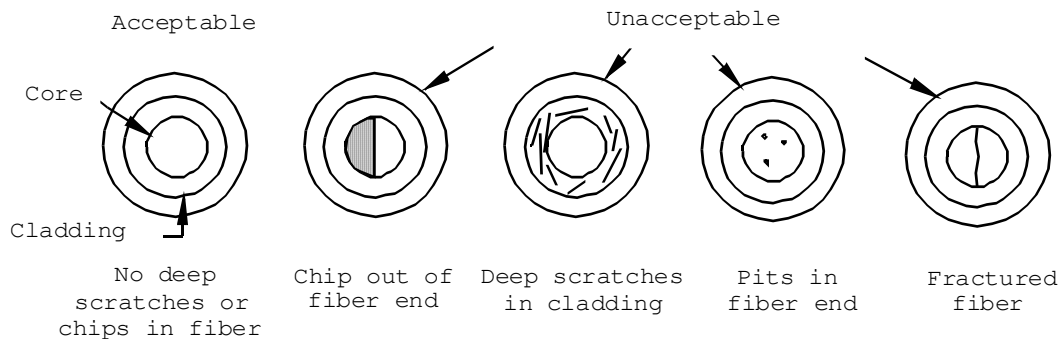

Figure 9. Quality verification.
Step 1 - Examine the terminus with the optical microscope to ensure that the optical surface is smooth and free of scratches, pits, chips, and fractures (see figure 9). If any defects are present, repeat the polish with the 0.1 um paper or re-terminate the fiber. (**NOTE:** Do not polish the terminus more than necessary to pass the quality check.) A high intensity back light may be used to illuminate the fiber during the quality check.